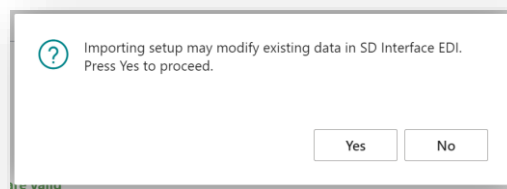

Figure 6-2
2. You are prompted that “Importing setup may modify existing data in SD Interface EDI. Press **Yes** to proceed.” Choose **Yes** if this is your first time to use SD Interface EDI and you have not already created any setup in SD Interface EDI (Figure 6-2).